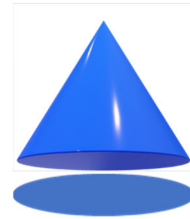

Figure 1
**Figure 1: Typical spray pattern from a Flat fan nozzle and coverage- with a correctly set up machine ensuring that overlapping provides even overall cover of the crop.**